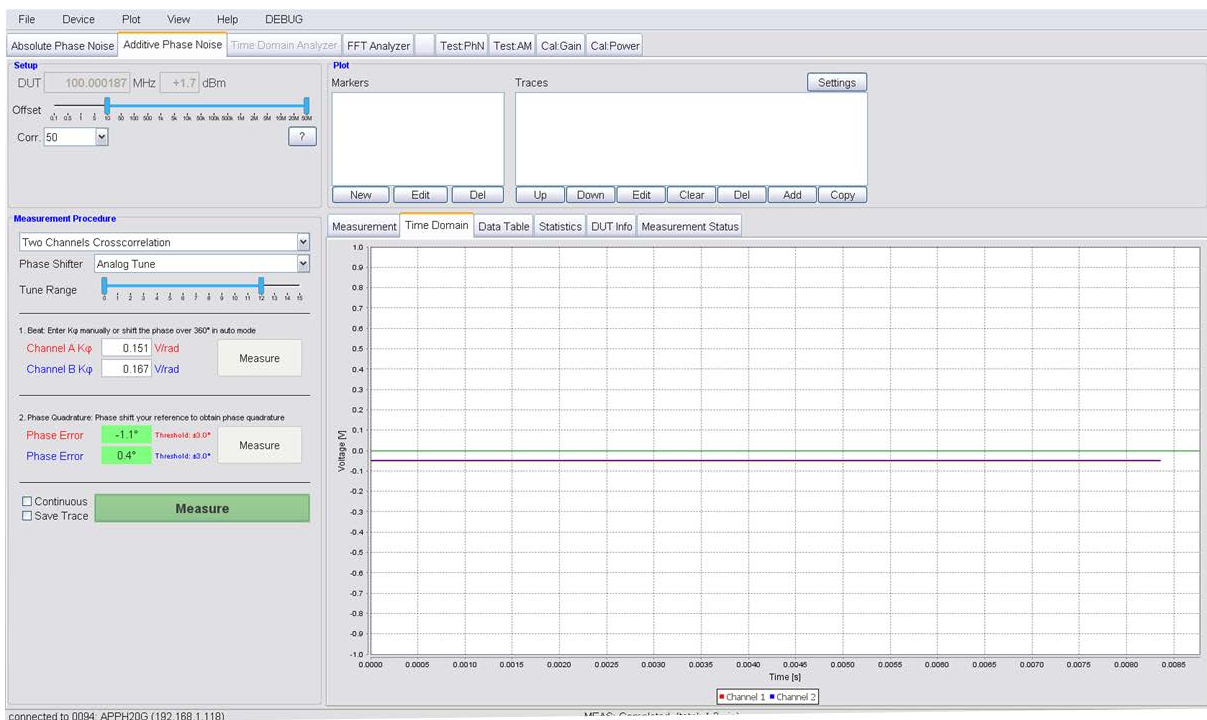

Figure 17 Additive phase noise measurement tab (Time Domain) during step 2, automatically adjusting the phase to quadrature.
2. Once the phase detector constants are known, the phases must be adjusted to obtain phase quadrature. Start this step by pressing the “Measure” button in step 2. Now, the phase difference between signal pairs at RF IN and REF IN (1 and 2) must be adjusted using the external phase shifters to achieve approximate phase quadrature (90 degree phase difference) as shown in Figure 17. The GUI shows a tolerance window of ± 3 degrees. In case “Analog Tune” is selected and voltage controlled phase shifters are used, this step is performed automatically by the instrument and can be omitted.